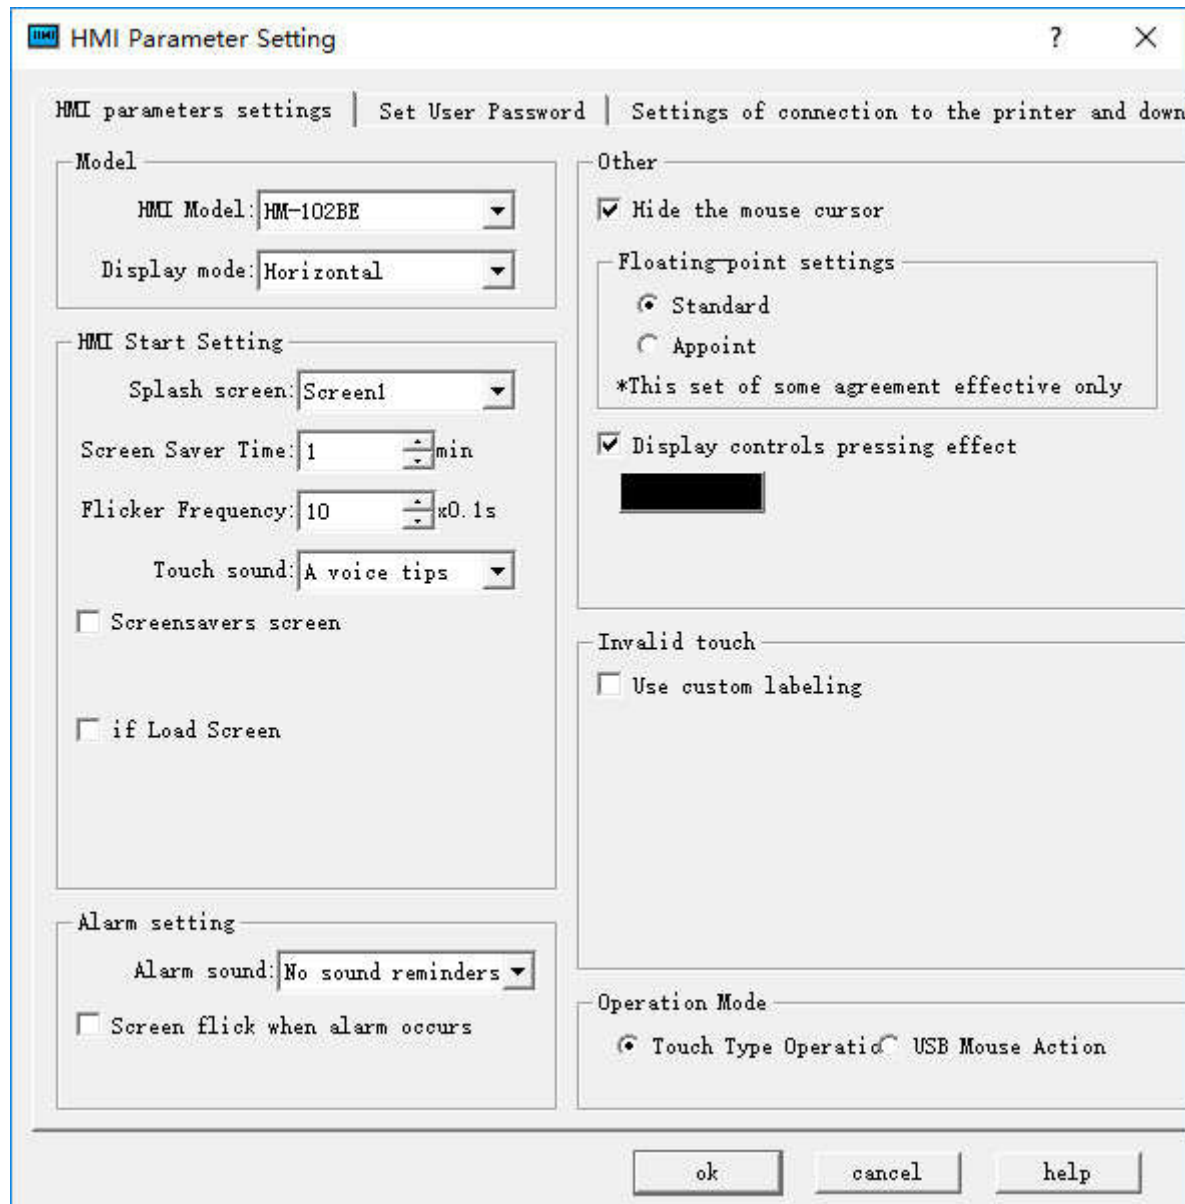

Figure7-3 HMI Parameter Setting dialog box
Double click "HMI Parameter Setting" in the Project Manager, then a dialog box pops up, as shown in Figure 7-3:
1. You can modify the parameter settings through Preference Setting in the drop-down menu Settings, or double-click the HMI Parameter Settings in Setting, Project Manager. Then a pop-up dialog box is shown as Figure 7-3 below: